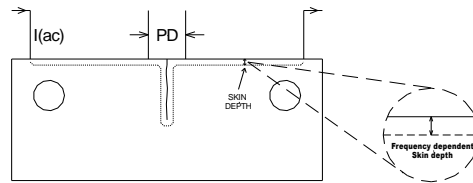

Fig 1. Basic ACPD setup.
The ACPD technique is well established as a method for crack growth measurement. Originally a laboratory technique, it is now used in several other areas of research and industry. The technique involves the supply and passage of an alternating current (AC) through the test specimen and the simultaneous measurement of the resultant potential drop (PD) across an area of the specimen, see figure 1 below. If the correct area is chosen, defect initiation can be detected through monitoring the change in the measured ACPD. As a defect enlarges and propagates, the PD measured will increase and the voltage drop will be proportional to the defect depth within the specimen. Additionally, other changes in a material will alter the ACPD reading including the state of stress within the specimen.